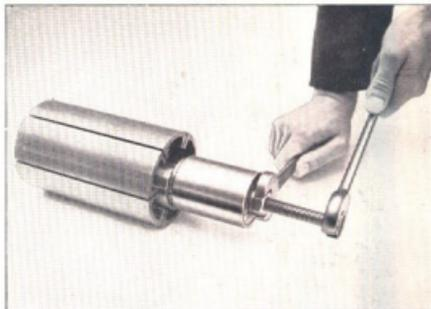

FIG. 6. Withdrawing the rear ball race.
5. Withdraw the rotor (2) together with the cam rings, bearings, blades and shaft collar in one assembly from the body.
6. Remove the blades (3) from the rotor.
7. Further dismantling of the rotor assembly should only be carried out if it is found necessary to replace any of the items. To remove the races, cam rings and shaft collar, the special extractor tool is required. The operation is illustrated in Fig. 6. The claws of the extractor should be inserted between the bearing and cam ring. On screwing the bolt up against the rotor shaft end, the race and shaft collar will be extracted together. The cam rings can then be removed from the rotor.